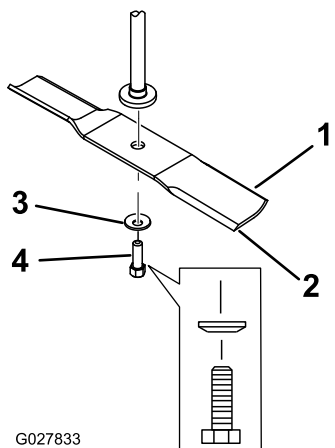

Figure 51
Hold the blade end using a rag or thickly-padded glove. Remove the blade bolt, curved washer, and blade from the spindle shaft (Figure 51).
- Install the blade onto the spindle shaft (Figure 51).
- Install the curved washer (cupped side toward the blade) and the blade bolt (Figure 51).